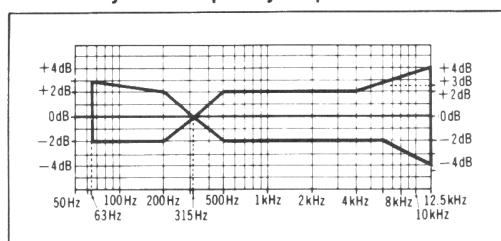

Fig. 10
- Make sure that the measured values are within the range specified in the frequency response chart. (Shown in fig. 10).